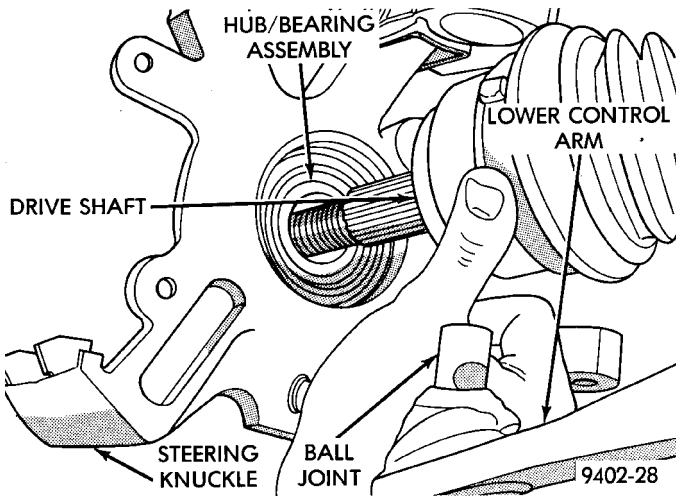

Fig. 18 Driveshaft Installation Into Hub And Steering Knuckle
(6) Slide driveshaft back into front hub. Install steering knuckle onto the ball joint stud (Fig. 18).